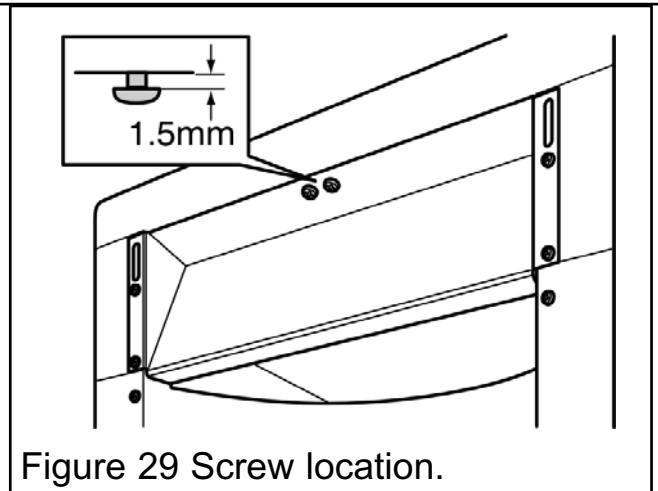

Figure 29 Screw location.
2. Insert two black self tapping screws into the holes at the top of the spillage plate leaving about 1.5mm gap between the underside of the screw head and the spillage plate (See figure 29).